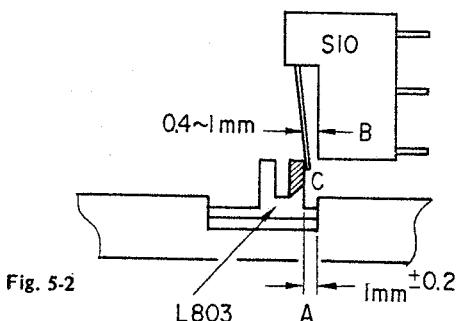

Fig. 5-2
- (1) The Plunger Solenoid L803 is fixed by using track-shape holes. After turning on the Play-Switch and operating the Plunger solenoid, fix this Plunger Solenoid so that its position has a gap B, as shown in Fig. 5-2.